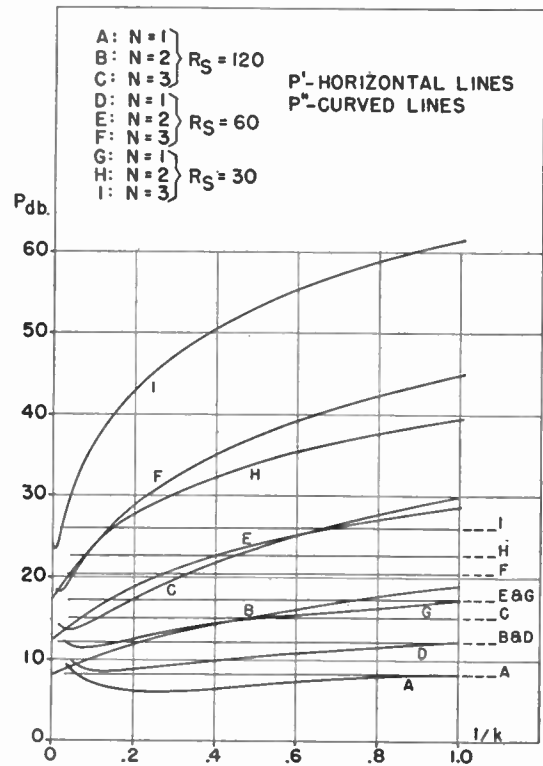
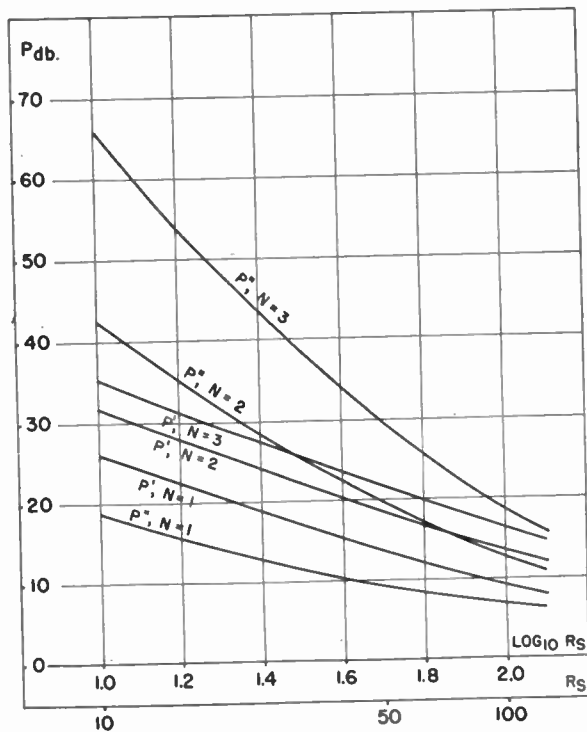

Fig. 3—Plot of P' and P'' vs. $1/k$ for several R_s and N (Fig. 2 configuration).
Fig. 4—Plot of P' and P'' vs. $\log_{10}R_s$ for several N (Fig. 2 configuration for $k=6.5$).
The functions P' and P'' depend on the three parameters: g , N , and k . The nature of this dependence is shown in Fig. 3, where P' and P'' are plotted as functions of $1/k$ for several values of N and R_s (i.e. g). It is apparent that shielding is always improved by lowering R_s (increasing g). This dependence is further illustrated by Fig. 4 where P' and P'' are plotted as functions of R_s for several N , for k assumed equal to 6.5 (type C coated glass at 10,000 mc). It is clear from both Fig. 3 and Fig. 4 that increasing N increases shielding effectiveness, particularly for quarter-wave sections. For $N > 1$ considerable increase in shielding results from making the sections quarter-wave rather than half-wave, particularly for higher N . For $N = 1$ the half-wave section is superior. Dependence on k is treated below.
The shape of curves on Figs. 3 and 4 suggests that for
Figs. 3 and 4 indicate an increase of shielding with decreasing k , provided that the thickness is maintained constant in radians, i.e., is increased (3) as k is decreased. This may, of course, be objectionable, for reason of reduced transparency. A more meaningful optimization would result, if the over-all dimension, D , as well as surface resistivity, were kept fixed. Then, if quarter wave construction is adopted,¹³ an increase of k permits a greater number of sections (greater N), while the shielding effect of each section is decreased. The reverse is true for smaller k . Clearly, there are then two opposing tendencies, and a specification of an optimum value of k should be possible. It will now be demonstrated that over-all improvement is obtained in practice by making k as large as possible.
¹³ This construction, as seen from Figs. 3 and 4 will result in greater shielding, except for $N = 1$. Note, furthermore, that k has no effect on shielding for the half-wave construction.